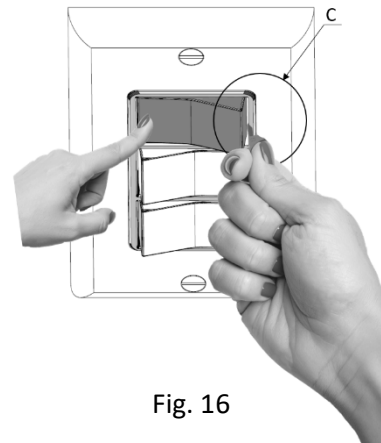

Fig. 16
3. Insert part 'B' as shown in figure 16 and 16a. Push until you hear one or two clicks.